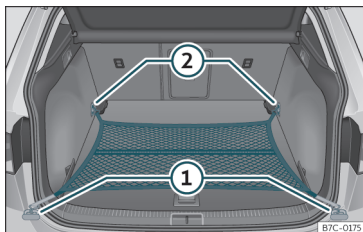

Fig. 143 In the boot: net bag hooked up at floor level.
- As applicable, lift the front fastening rings >>> Fig. 143 ②.
- Secure the net hooks to the fastening rings ② >>> △. The bag zip should be facing upwards.
- Secure the net hooks to the fastening rings ①.